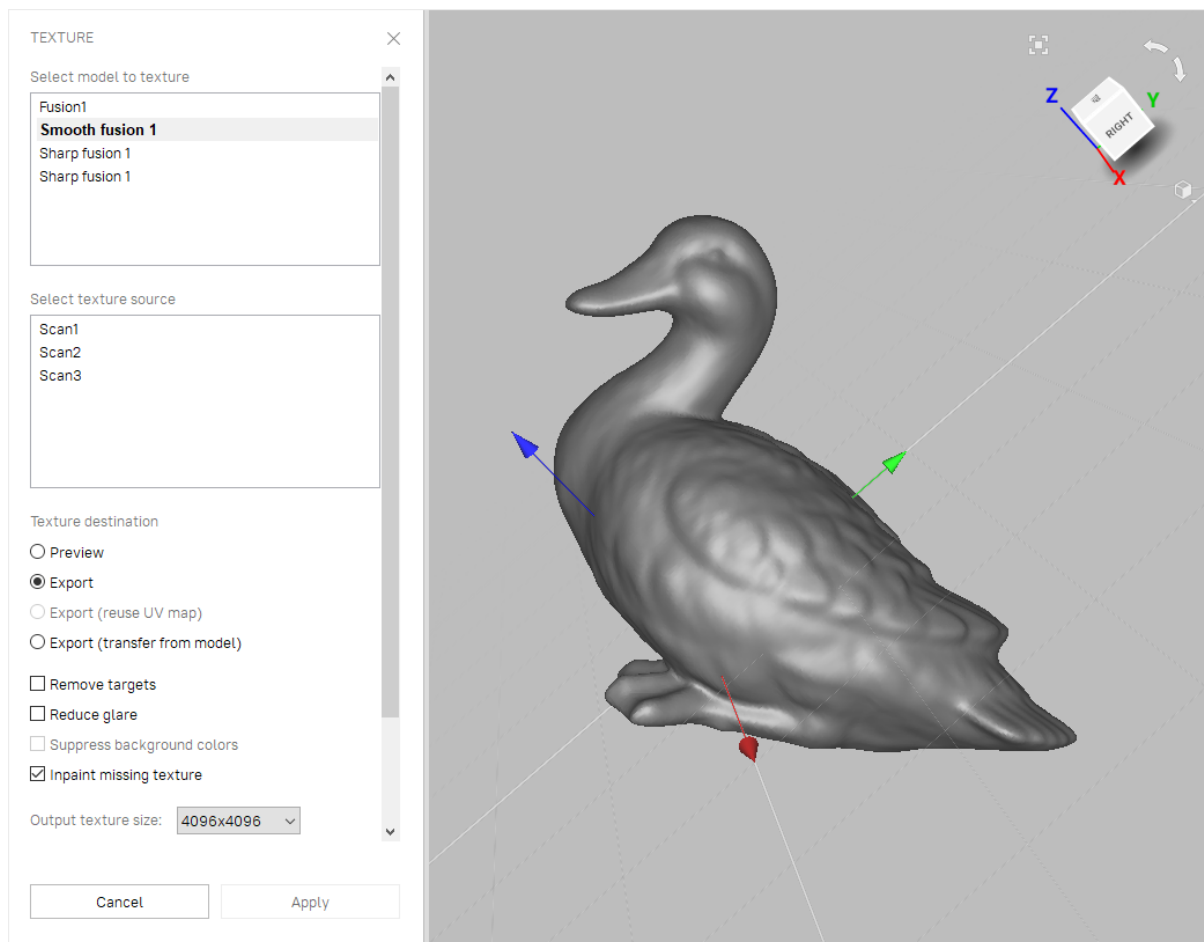

Figure 109: Choosing a texture-application method and adjusting its parameters.
2. Choose a model from the first list (see *Figure 109*); Artec Studio will apply the textures to this model